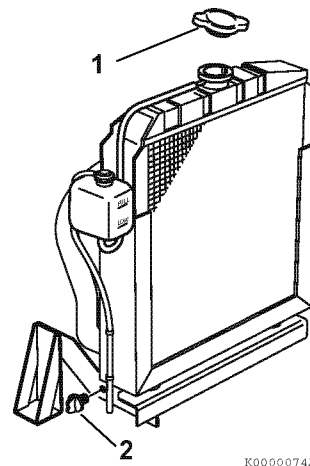

Figure 5-15
2. Remove the radiator cap (**Figure 5-15, (1)**).
3. Remove the drain plug or open the drain cock (**Figure 5-15, (2)**) at the lower portion of the radiator and drain the engine coolant.